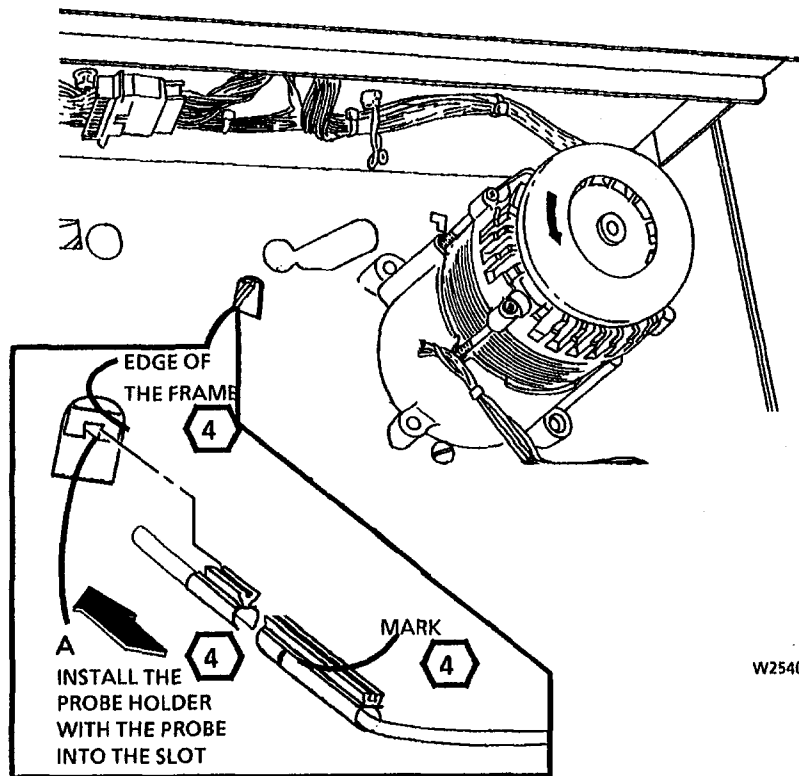

Figure 2. Install the Electrometer Probe
5. (Figure 2): Install the Electrometer Probe.